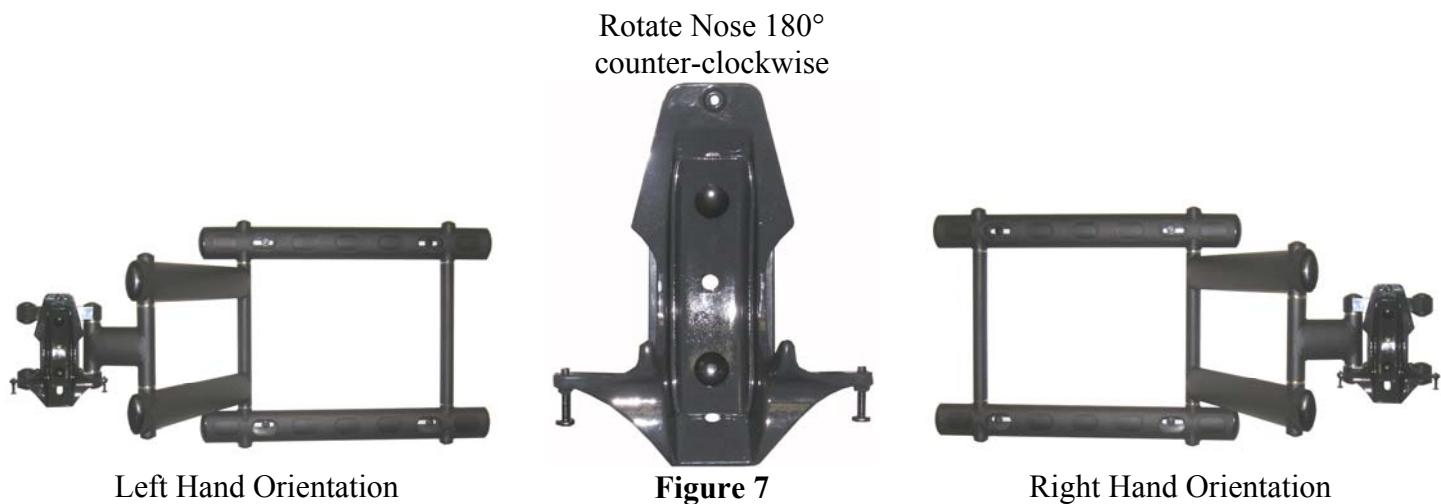

Figure 7
2. Detach the nose piece assembly, rotate 180°, and place back onto the mount (Figure 7).